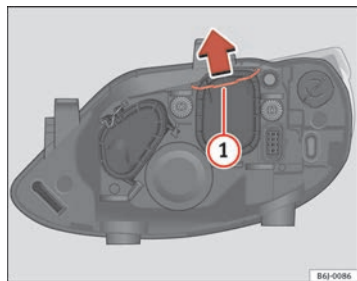

Fig. 146 Dipped beam headlights
- Remove the loop ⇒ fig. 146 ① in the direction of the arrow and remove the cover.